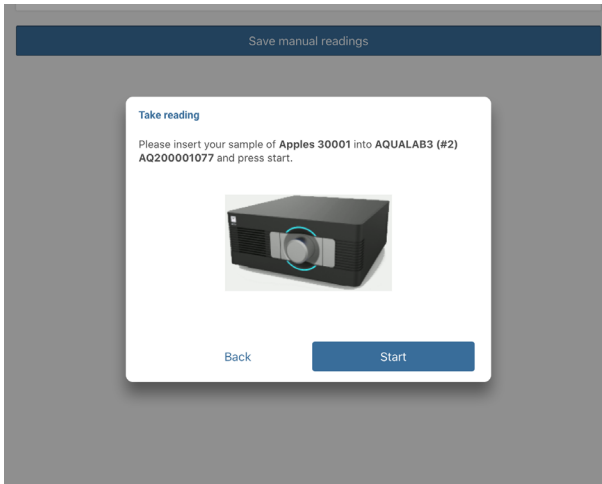

Figure 56 Take Reading popup
- b. Select the **Start** button on the Take Reading dialog box to start the reading if the sample is already loaded and the drawer knob is turned to the left (Figure 56).